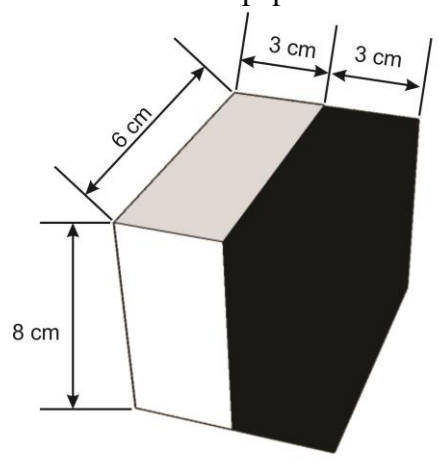

Figure 3: Block Design
- For each block, cover half of the block with black color chart paper and the other half with white color chart paper as shown in Figure 3.